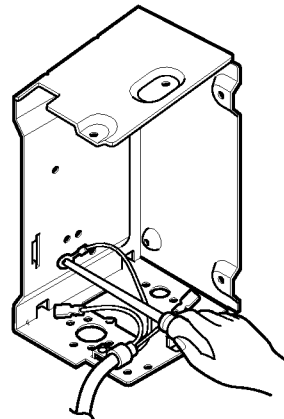

Figure 14
2. Disconnect the grounding screw from the control box. (See figure 14)